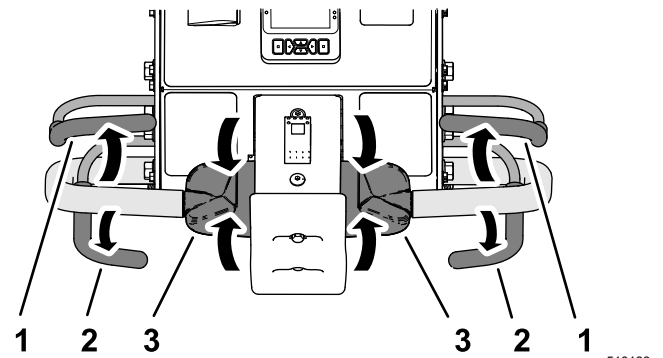

Figure 79
1. If you are aerating, release the aerate bail (Figure 79) to raise the coring head; refer to Raising the Coring Head \(page 45\).